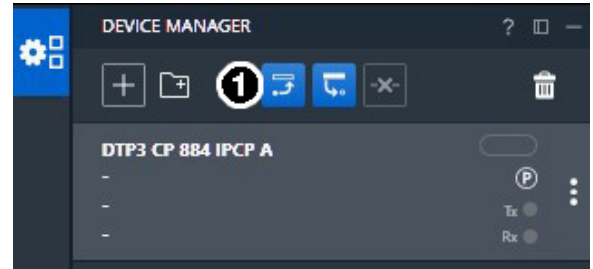
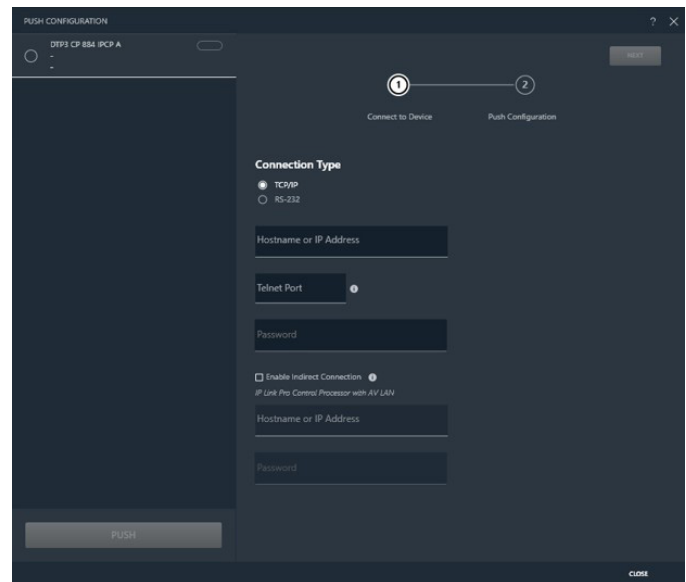

Figure 24. Push Button on the DSP Toolbar
Figure 25. Pushed Configuration Box
4. Click the **Push** button (see figure 24, ❶). The Push Configuration box opens (see figure 25 on page 12).